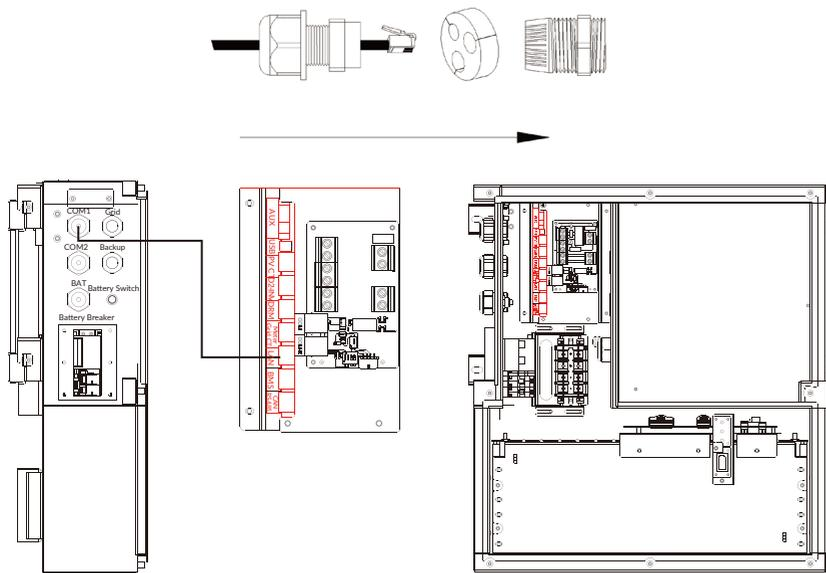

Figure 2.15 Ethernet Communication Cable Wiring
Step 11 Install ethernet communication cable, as shown in Figure 2.15. It won't be needed if the WiFi module will be used.